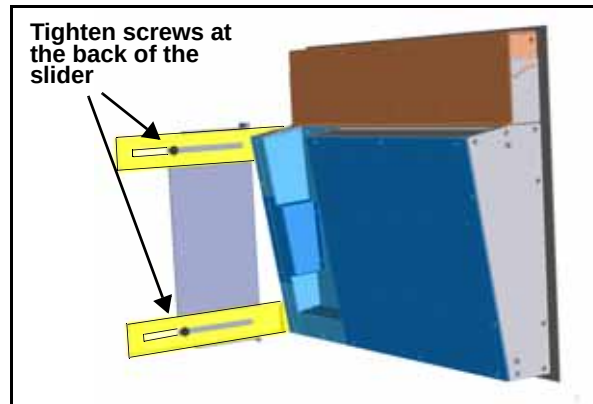

Figure 2-14. Adjustment of Slider Screws
7. Loosen the screws on the sliders, and then reposition the sliders to change the viewing angle of the control panels (see Figure 2-14).